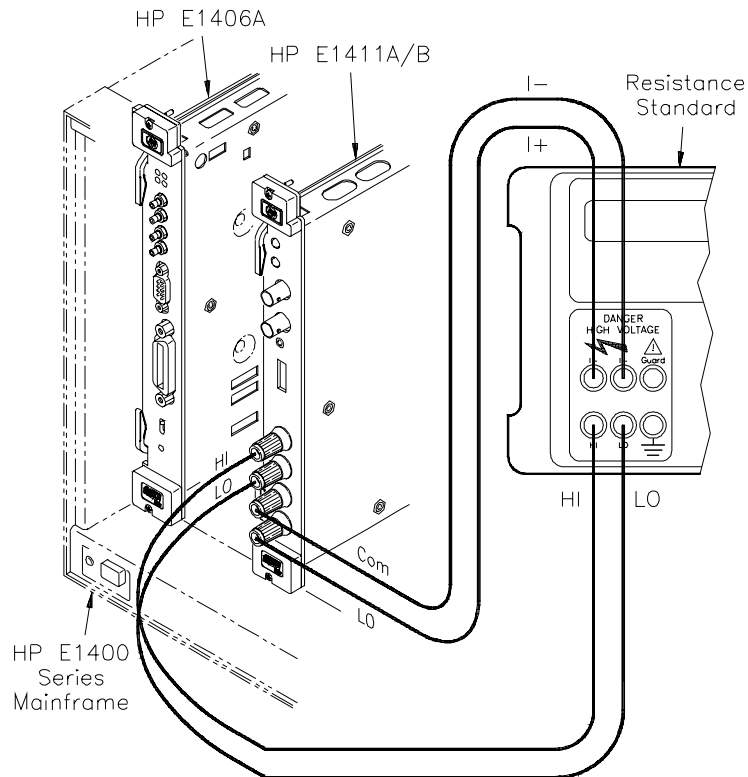

Figure 4-4. Resistance Test Setup
1. Connect the equipment as shown in Figure 4-4